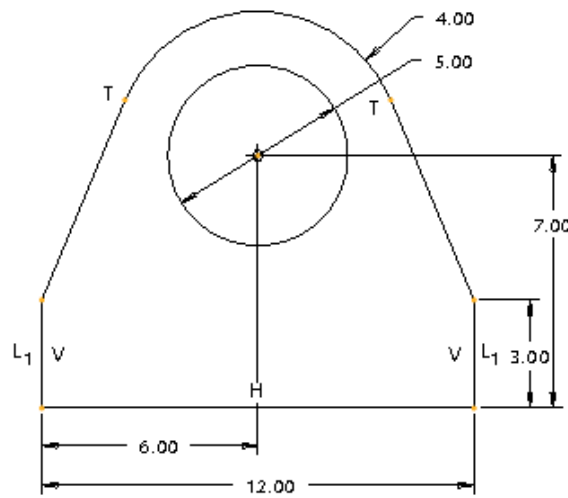

Figure 1-24 The complete sketch with dimensions and constraints
- Dimension the sketch and then modify the dimensions of the sketch, refer to Figure 1-24
5. Press the middle mouse button to place the dimension below the sketch, refer to Figure 1-24.
5. Modify all dimensions, as shown in Figure 1-24. After modifying the dimensions, choose the **Regenerate the section and close the dialog** button from the **Modify Dimensions** dialog box. A message **Dimension modifications successfully completed** is displayed in the **Message Area**.
The sketch is complete and is shown in Figure 1-24.